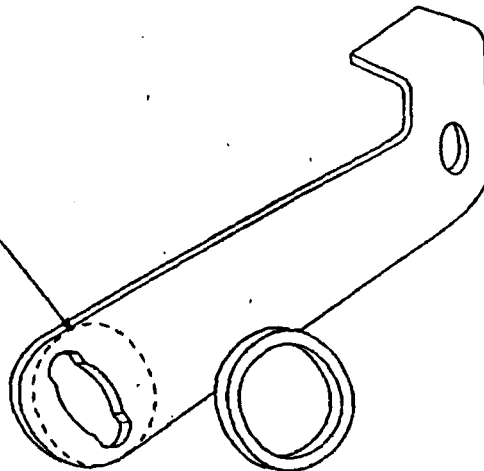

fig.1
- 6) Attach the provided gasket to the air temperature sensor bracket. (as shown in fig. 1)